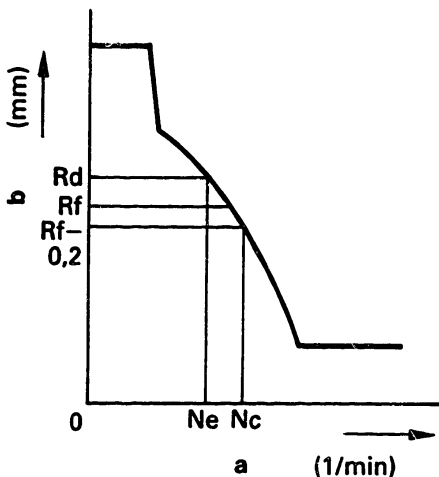

Fig. 84 Damper spring
2. Increase pump speed slowly from "idling" speed (N_e rpm) to the speed where control rack position corresponds with R_f minus 0.2 mm, and maintain this speed. (Fig. 84)